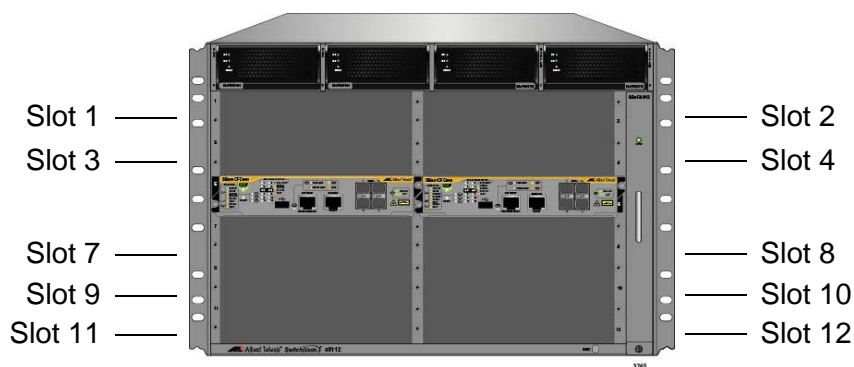

Figure 94. Slots 1 to 4 and 7 to 12 for the Ethernet Line Cards
1. Choose a slot in the chassis for the Ethernet line card. The Ethernet line cards can be installed in slots 1 to 4 and 7 to 12. The slots are shown in Figure 94.